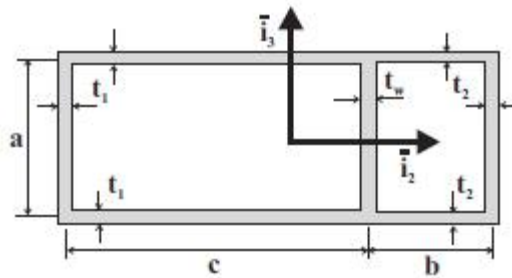

Fig. 8.45. Thin-walled beam with two cells.
The cross-section of the multi-cellular thin-walled beam shown in fig. 8.45 is subjected to a vertical shear force V_3 . (1) Find the shear flow distribution in the section. (2) Verify that all joint and edge equilibrium conditions, eq. (8.29), are satisfied. Use $a = b$ and $c = 2b$ and $t_1 = t_2 = t_w = t$.